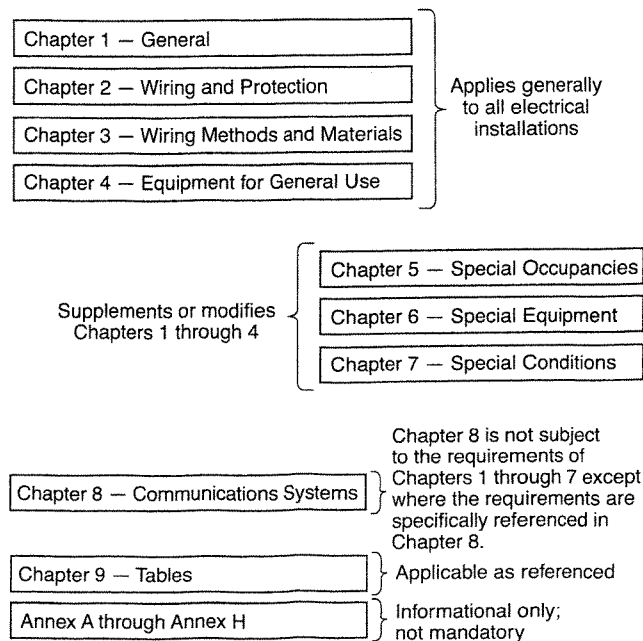

Figure 90.3 Code Arrangement.
**(C) Special Permission.** The authority having jurisdiction for enforcing this *Code* may grant exception for the installation of conductors and equipment that are not under the exclusive control of the electric utilities and are used to connect the electric utility supply system to the service-entrance conductors of the premises served, provided such installations are outside a building or terminate immediately inside a building wall.
**90.3 Code Arrangement.** This *Code* is divided into the introduction and nine chapters, as shown in Figure 90.3. Chapters 1, 2, 3, and 4 apply generally; Chapters 5, 6, and 7 apply to special occupancies, special equipment, or other special conditions. These latter chapters supplement or modify the general rules. Chapters 1 through 4 apply except as amended by Chapters 5, 6, and 7 for the particular conditions.